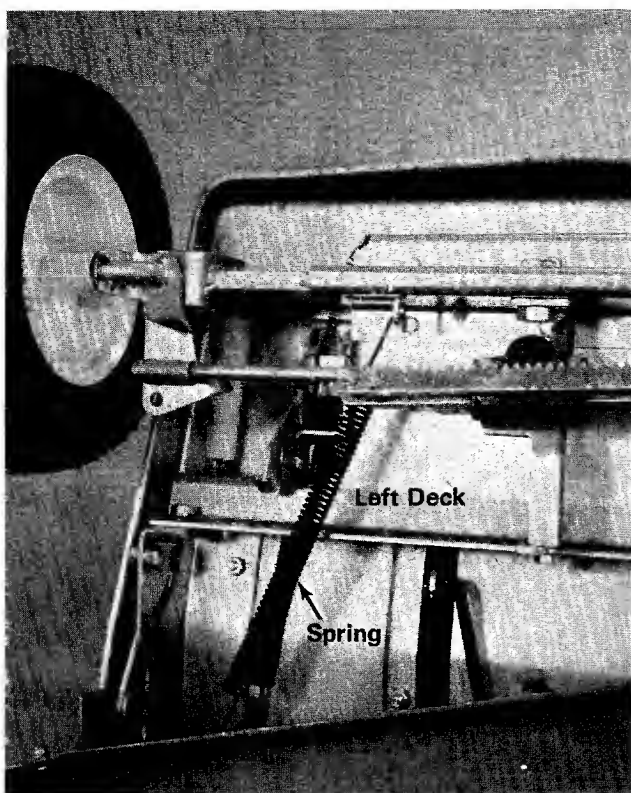

Figure 30
5. Unhook the two deck springs. (See figure 30.)